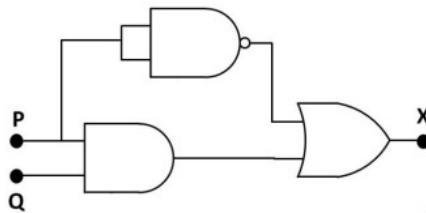

Fig. 3.24
42. In Fig. 3.24, which of the following is correct?